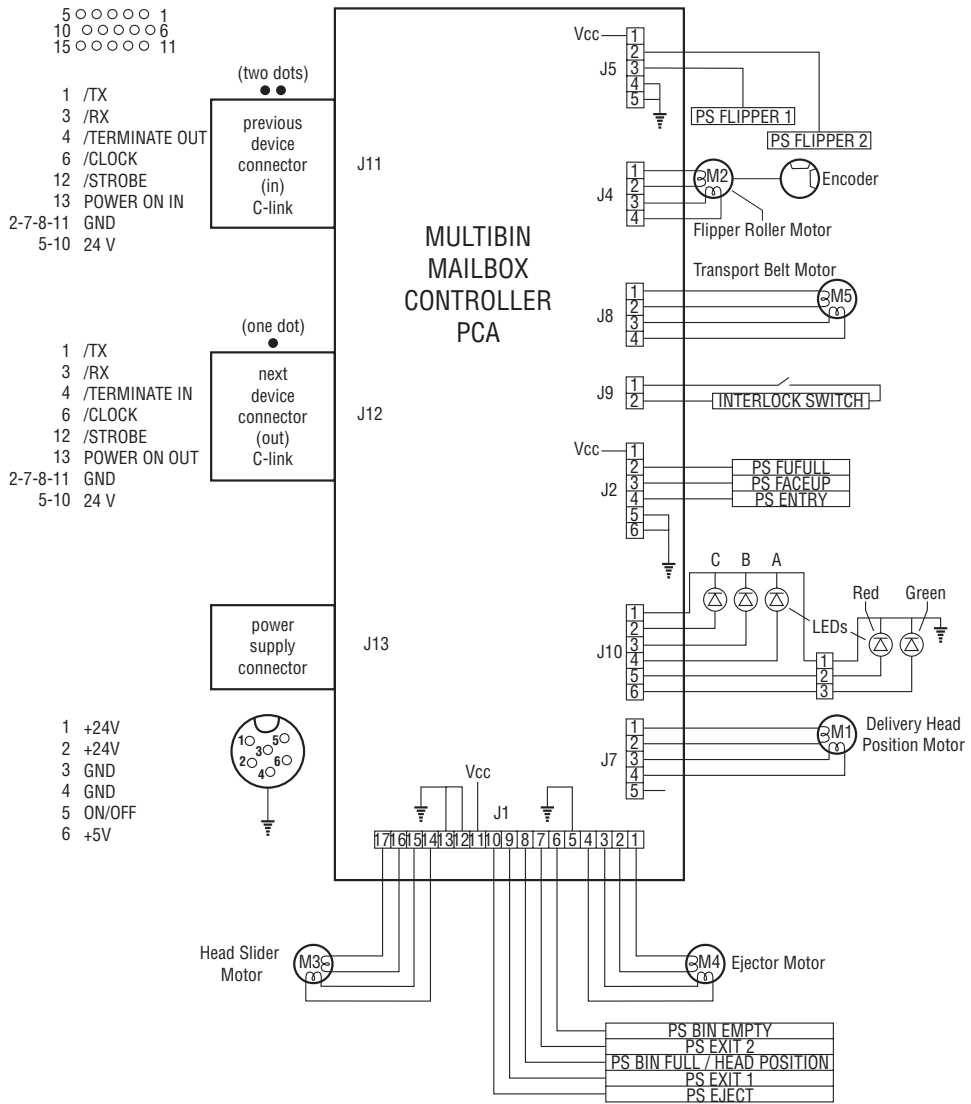

Figure 7-28 8-bin Mailbox Main Wiring Diagram
- Figure 7-28, “8-bin Mailbox Main Wiring Diagram,” on page 503